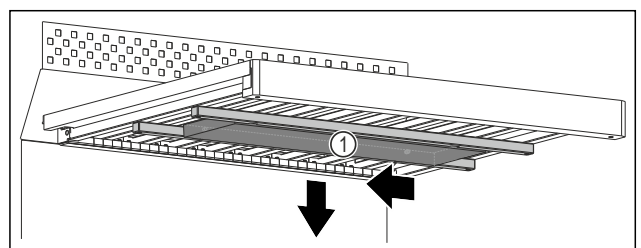

Fig. 105
- ▶ Push the water box *Fig. 105 (1)* to the left.
- ▶ Remove the water box *Fig. 105 (1)* downwards.